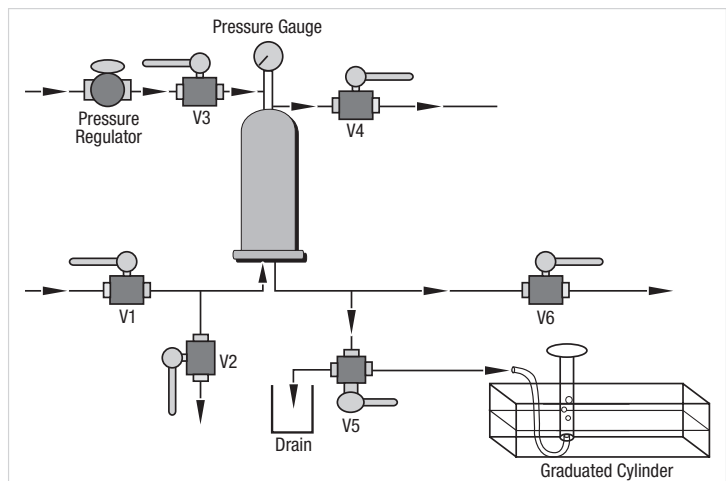

Figure 1. FFIT (manual method).
## 2. Procedure (Manual Testing — Figure 1)
A. Configure the system as shown in Figure 1.